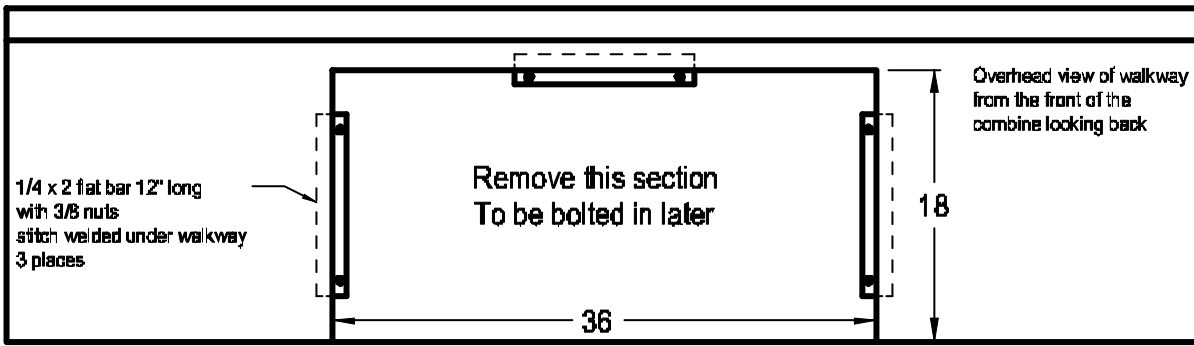

Figure 3
3. An access through the walkway will make installation and maintenance easier this should be approximately 18" x 36". Use extreme care not to cut any wires or hydraulic hoses. Weld strips under the walkway as shown, then place piece removed back in place and mark holes from bottom side, drill holes and set aside. (Figure 3)